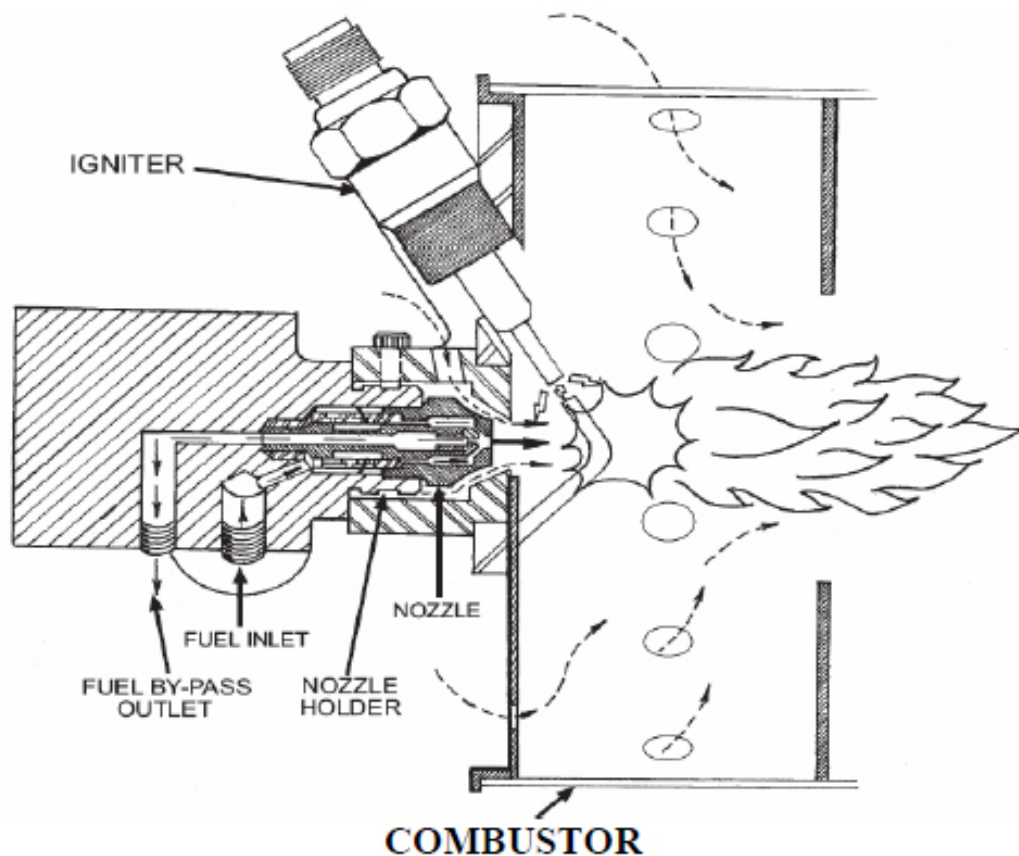
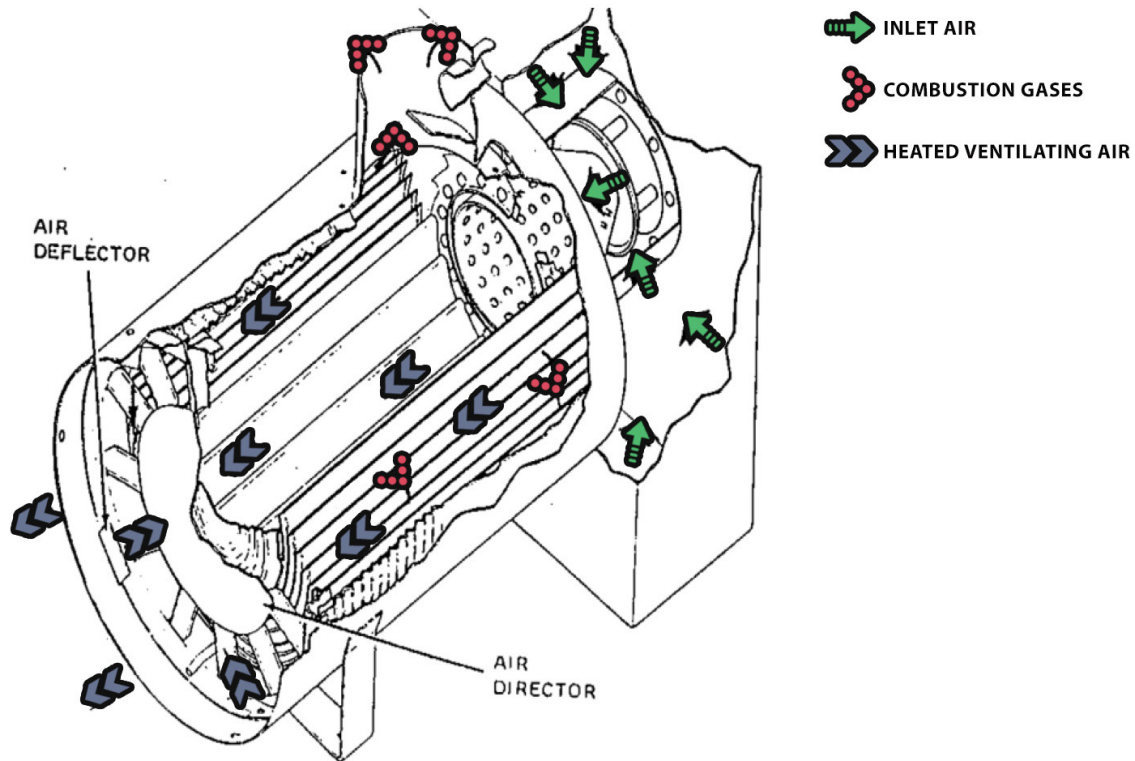

Figure 2-4 Sectional View of Nozzle & Combustor
Figure 2-5 Air Flow
2.9 Fuel flowing from the nozzle is ignited in the combustion chamber (see figure 2-4). The burning fuel strikes a plate or target in the combustor and is diffused into the heat exchanger. Air from the fan enters holes in the side of the combustor in a manner that will ensure proper fuel-air mixture. From the combustor, the burning fuel flows through the heat exchanger in a spiral path between the surfaces of the ventilating air tubes and is expelled through the parallel tubes and the space between the surfaces of the ventilating air tubes and is expelled through the exhaust opening at the top of the casing. (See figure 2-5) The ventilating or heating air is forced through the parallel tubes and the space between the heat exchanger shell and the casing. Heat is exchanged between the hot exhaust gases and the ventilation air. At the discharge end of the heat exchanger is the temperature sensing elements. The air control assembly consists of a baffle and a series of radial tubes. Air traveling between the walls of the heat exchanger and the casing is directed radially inward behind the baffle where it is mixed with warmer air leaving the parallel tubes of the heat exchanger. This mixing ensures a more uniform temperature throughout the discharge airstream. A duct adapter assembly is installed on the discharge end of the heater to connect the flexible duct (see figure 2-2).